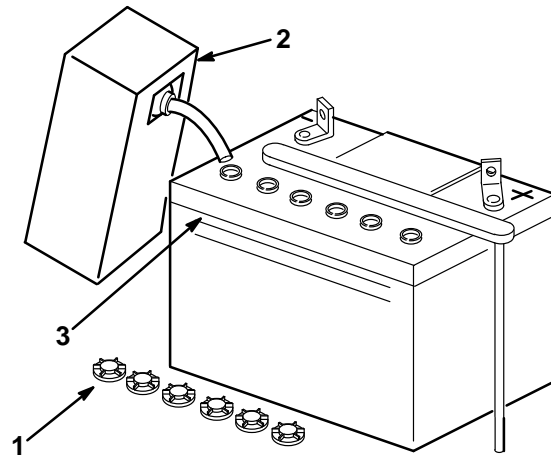

Figure 5
2. Unscrew six filler caps from the battery. Slowly pour electrolyte into each cell until the level is up to the "UPPER" line on the battery case (Fig. 5).
5. Slowly pour electrolyte into each cell until the level is once again up to the “UPPER” line on the battery case (Fig. 5).